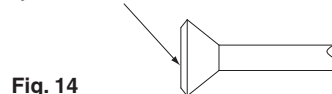

Fig. 14
- When making a flare connection, coat the flared inner surface only with ether oil or ester oil. (Refer to Fig. 14) Then, turn the flare nut 3 to 4 times with your hand and screw in the nut.